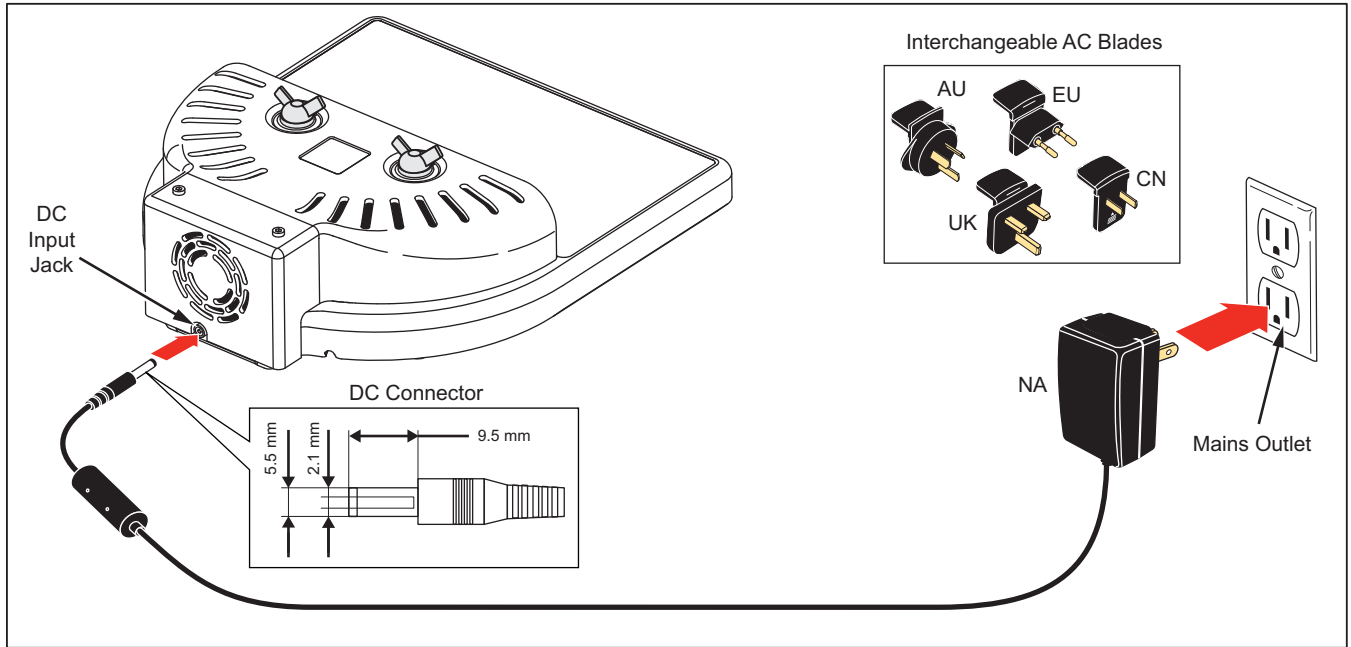

Figure 1. DC Supply Connections
3. Put the dc connector of the Supply into the dc input jack on the rear-panel of the Coil. See Figure 1.